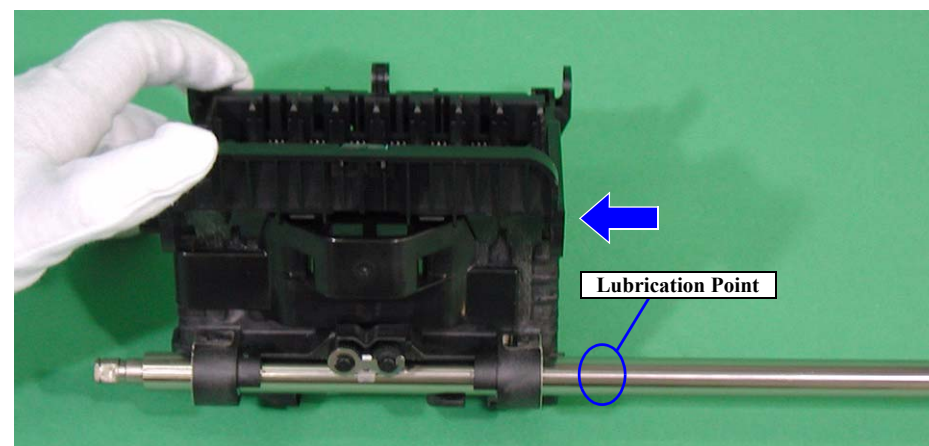

Figure 6-17. Carriage Shaft lubrication (4)
6. Lubricate the grease using a syringe at the point shown in Figure 6-17.